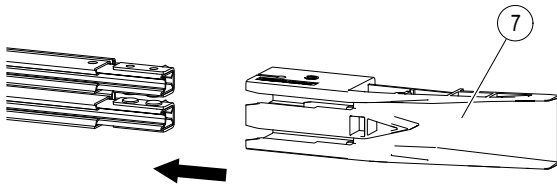

Fig. 21: Slide pickup guide over line feed point
- Slide the pickup guide over the conductor rail end (see Fig. 21).